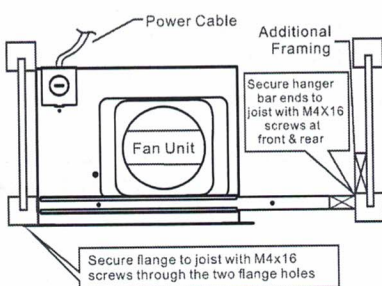

Figure 5: Mounted with one side onto ' I ' joist
- ii) For method in figure 5, secure the fan unit to ' I ' joists by driving two screws onto base of joist through the holes on housing flange and driving screws onto the other ' I ' joist through the holes at the ends of hanger bars.